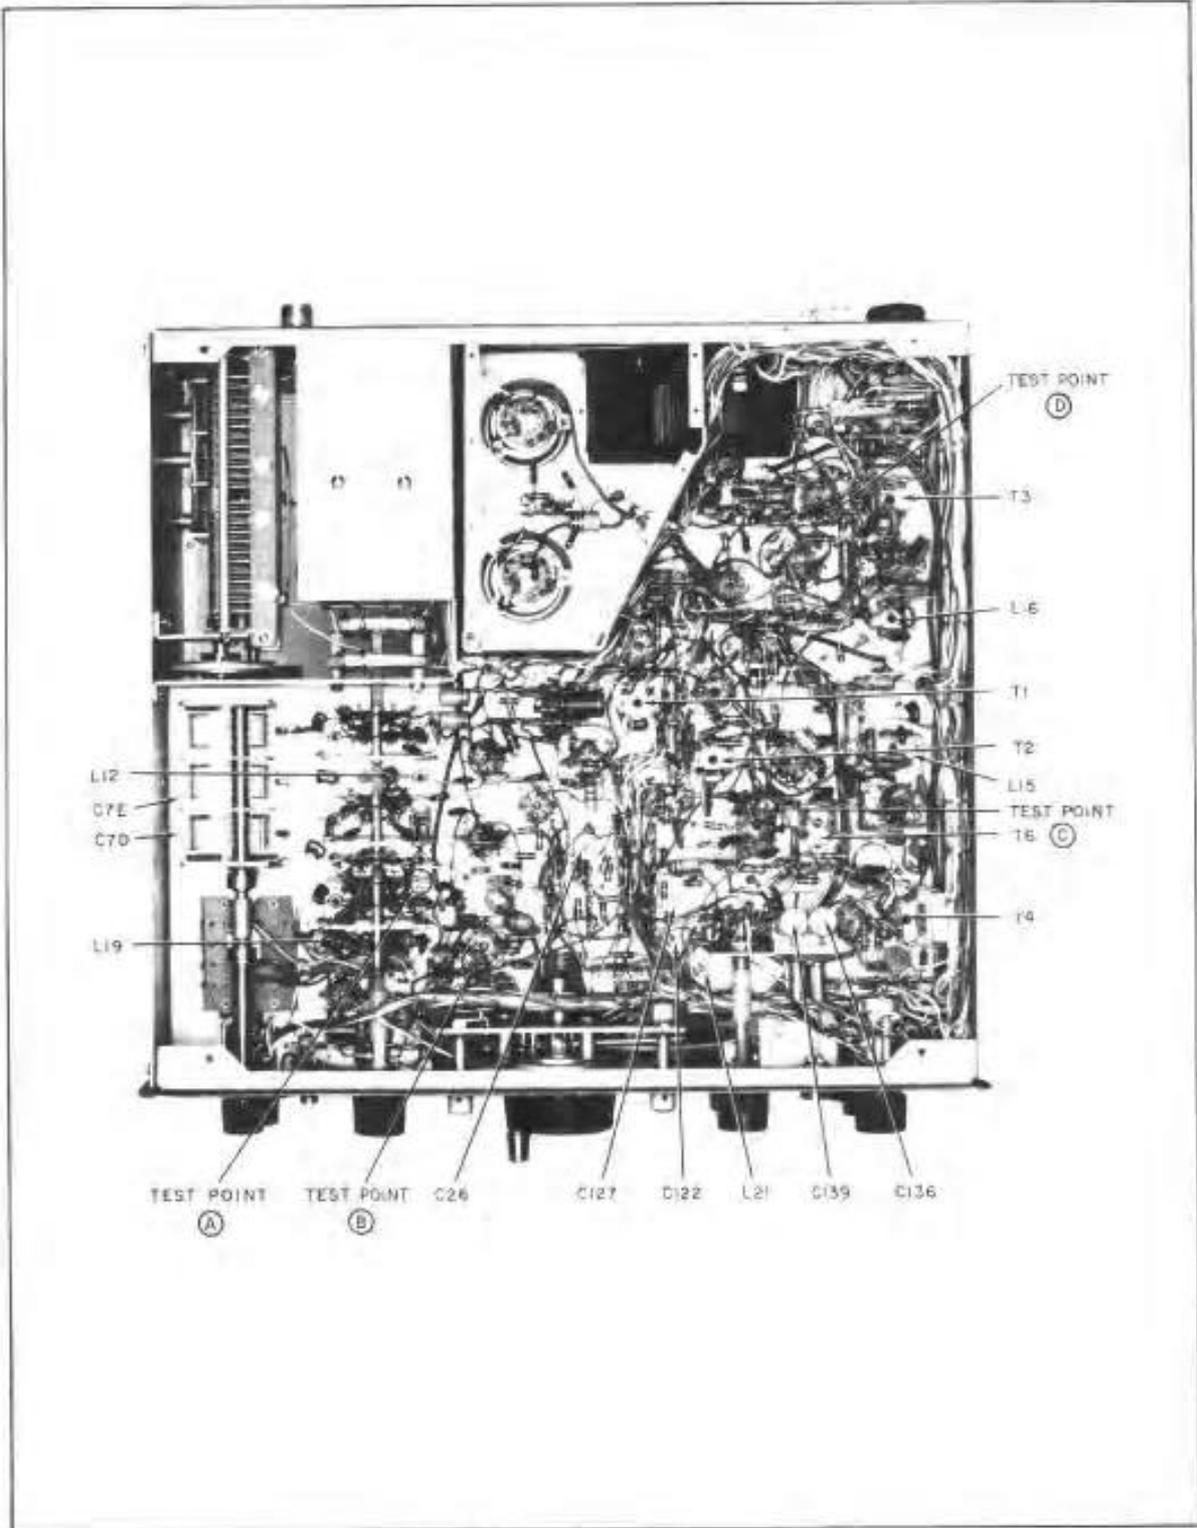

Figure 16. Model SR-2000 Bottom View, Alignment Adjustments.
1. Remove the bottom cabinet cover per paragraph 7-1B to gain access to the adjustment screw of trimmer C122. See figure 16 for location of the trimmer.
The signal source for alignment may be obtained from an RF signal generator (at 1650 KC) or the transceiver can be tuned to the 100 KC crystal calibrator signal in the 20M band. (Any 100 KC marker.) If an RF signal generator is used, connect its output to pin 2 of the second receiver mixer tube (V4A). Test point C. (See figures 16 and 22.)
A. Remove the heterodyne oscillator tube (V12) and connect the HP410B VTVM RF probe to test point (B) (Pin 2 of the second transmitter mixer tube V11A). See figures 16 and 22.
A. Connect the 50-ohm dummy load and VTVM RF probe to the ANTENNA jack (J1). Connect the RF signal generator termination to test point A. (See figures 16 and 22.) Connect the signal lead to the receiver antenna coaxial cable termination at switch wafer SID (4th wafer from front) and the ground lead to the first shield plate. Connect the AF voltmeter across the 500 ohm audio output transformer winding at the RCVR AUDIO jack (J3) located at the rear chassis apron. This arrangement will now permit transmitter and receiver operation without connecting and disconnecting test equipment repeatedly during alignment.
E. Set the OPERATION control at REC., RF and AF controls (receiver group) at maximum (10), RIT control at OFF, and NOISE BLANKER at OFF. Do not change the VFO setting and PRESELECTOR control setting set up in step D. Tune the RF signal generator to 28,000 KC and adjust it for approximately 1000 CPS beat note. Use just enough signal generator output (approximately one microvolt for an aligned unit) to keep from developing AVC voltage (no "S" meter indication). Adjust coil L5 for maximum audio output without developing AVC voltage.